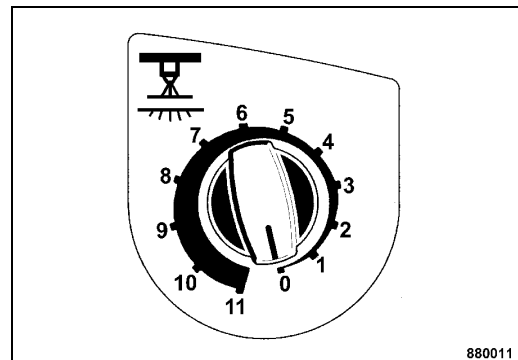

Fig. 85
- To switch off the pressure sprinkling system switch the interval switch for pressure sprinkling (Fig. 85) to position "0".